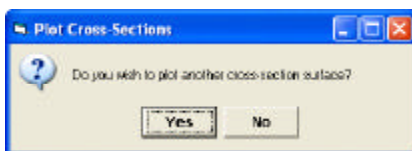

Figure 21
14. Since we have specified the attributes for both Cross-Section Data Tables. From Figure 21, click at the: